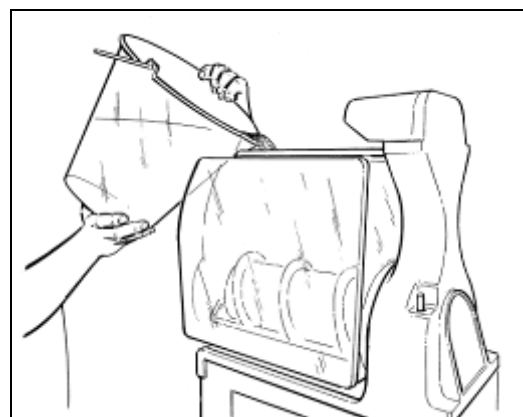

Fig. 19
- Pour the mix obtained into the bowl respecting the maximum limit on the bowl (see fig.19).